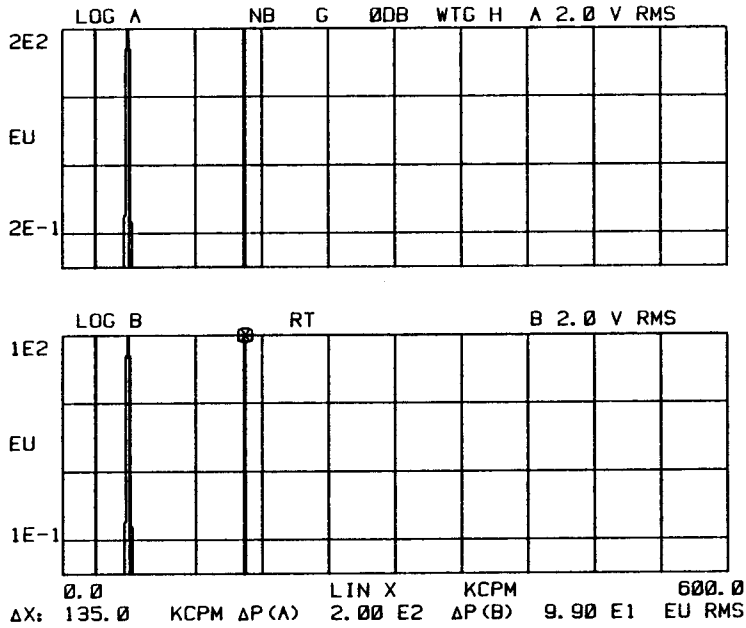

Figure 4-8. Cursor Control ΔP Sample Display
k. Press the CURSOR group ΔP touch control and compare the display with Figure 4-8.